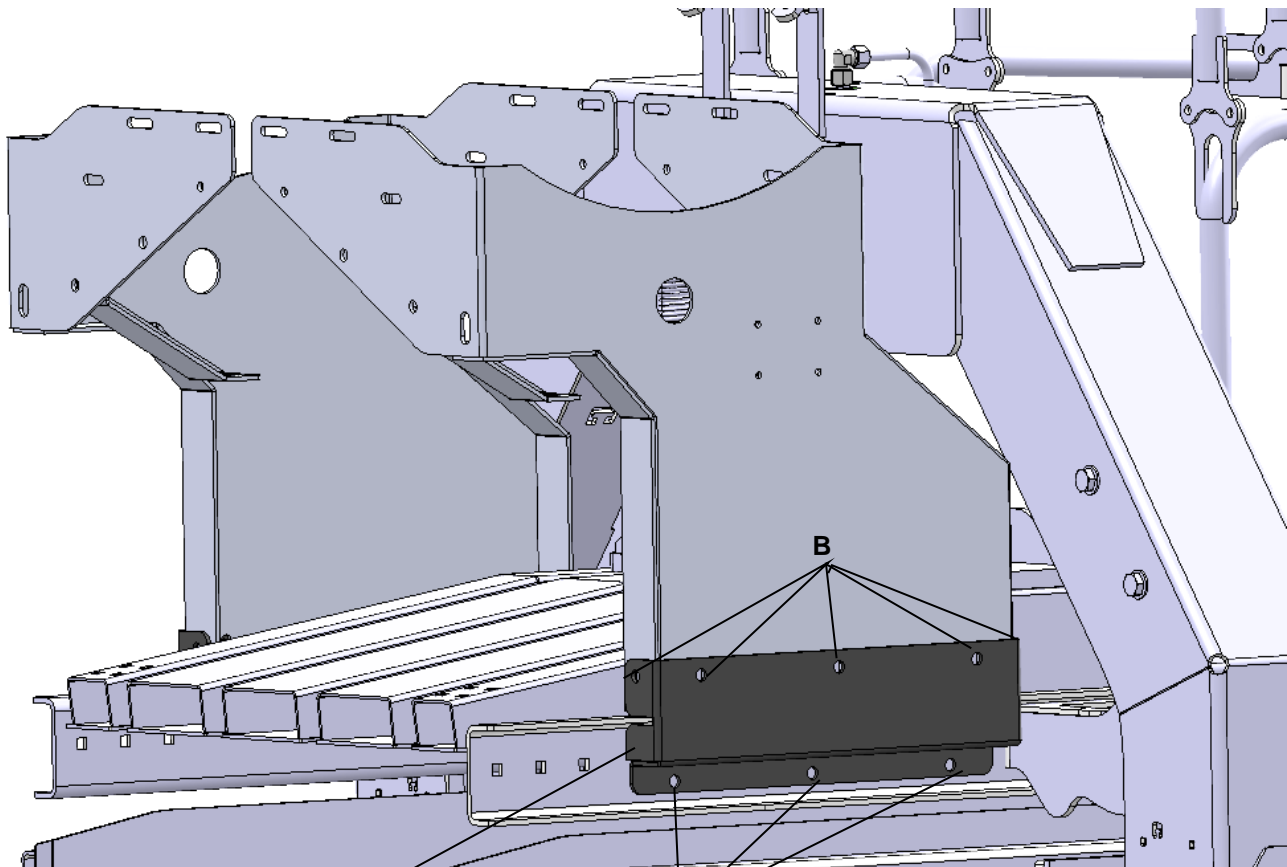

Figure 1
1. Locate parts bag 3. Install the two leg adapters (001-6707KK) to the frame of the baler at point A as seen in Figure 1. Secure leg adapters (001-6707KK) to each side with 3 ½ x 1 ¼" button head cap screws, locks, flat washers, and nuts. Repeat for both leg adapters.
2. Attach each saddle leg (001-6706KH-right saddle leg and 001-6707KC-left saddle leg) onto the leg adapters (001-6707KK) using five ½" x 1 ½" bolts, locks, flat washers, and hex nuts shown at point B in Figure 1. Repeat for both saddle legs.